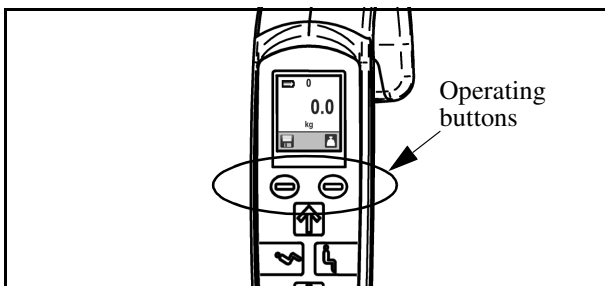

Fig. 65
- At start-up, press both operating buttons for the scale at the same time (see Fig. 65).